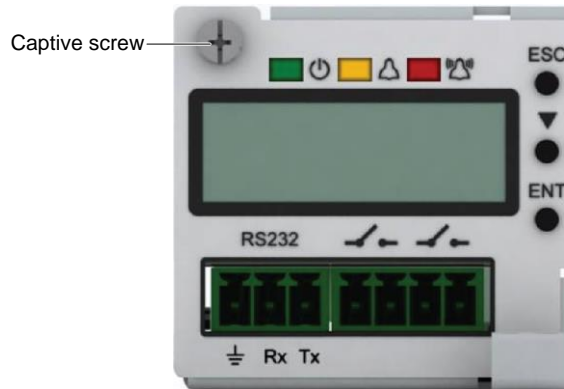

Figure 4-2 M225S Controller replacement (1)
- Loosen the captive screw of the controller, as shown in Figure 4-2.